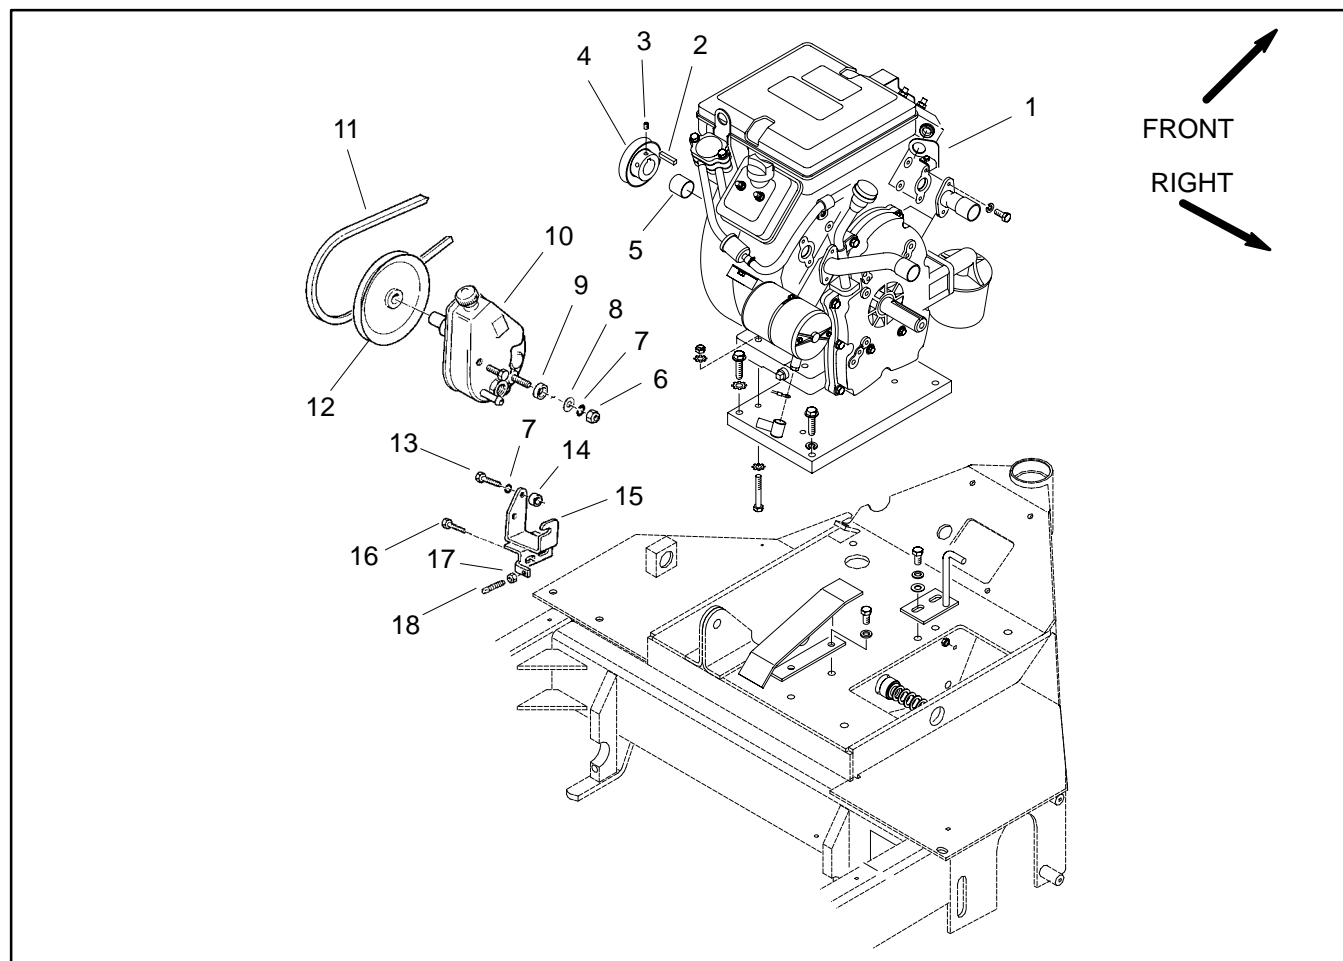
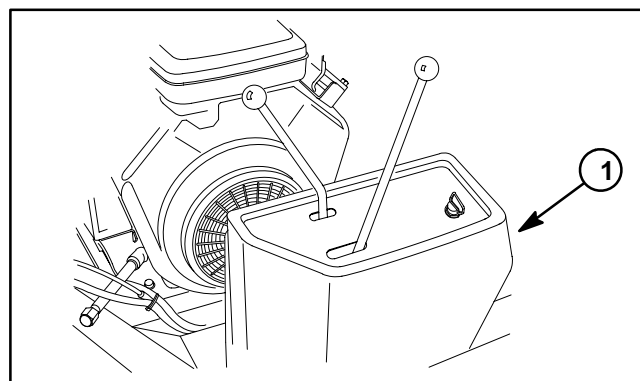

Figure 13
Figure 14
**Drive Belt Removal (Fig. 13)**
3. Remove control cover from machine (Fig. 14).
4. Loosen two (2) self-tapping screws (item 16) that secure pump support bracket to frame. Loosen jam nut (item 17) and then loosen square head screw (item 18) to relax pump drive belt.
**Drive Belt Installation (Fig. 13)**
3. Install control cover to machine (Fig. 14).